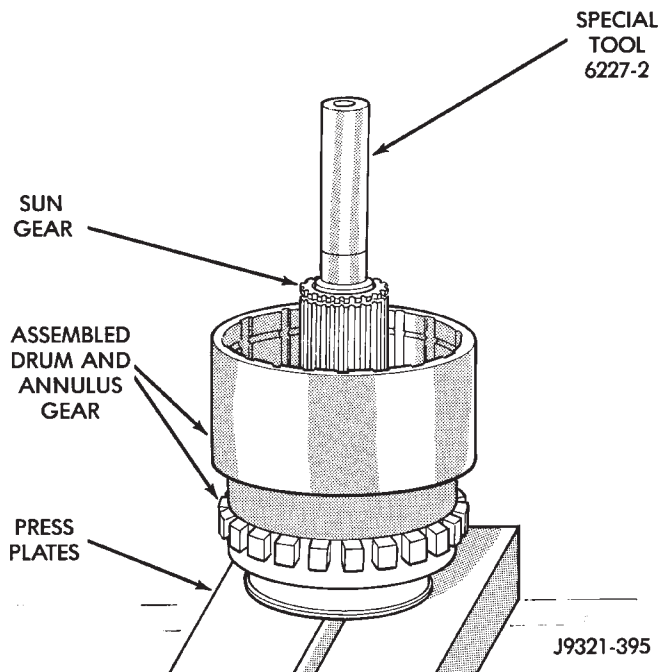

Fig. 229 Alignment Tool Installation
(15) Mount assembled output shaft, annulus gear, and clutch drum in shop press. Direct clutch spring, hub and clutch pack are easier to install with assembly mounted in press.
(16) Align splines in hubs of planetary gear and overrunning clutch with Alignment tool 6227-2 (Fig. 229). Insert tool through sun gear and into splines of both hubs. Be sure alignment tool is fully seated before proceeding.